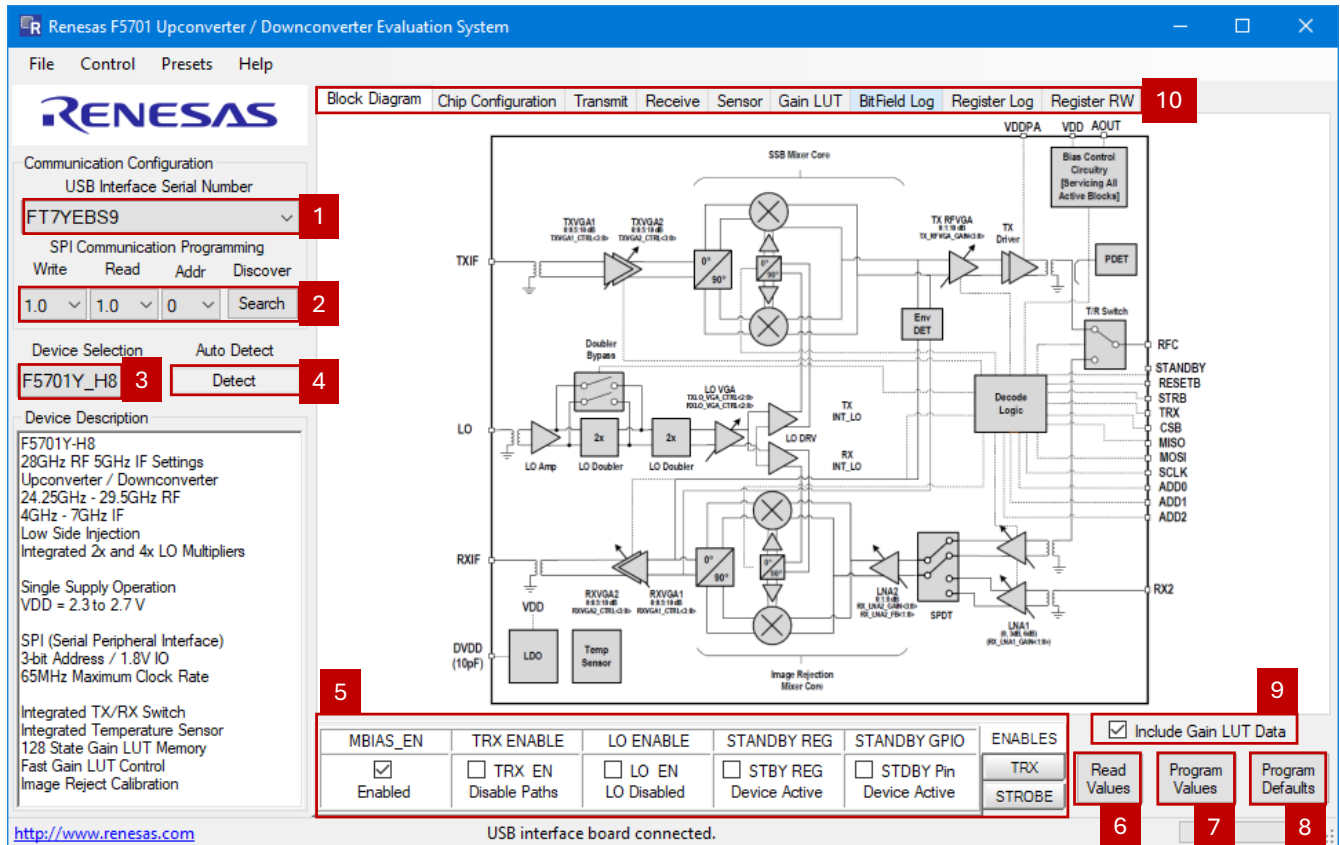
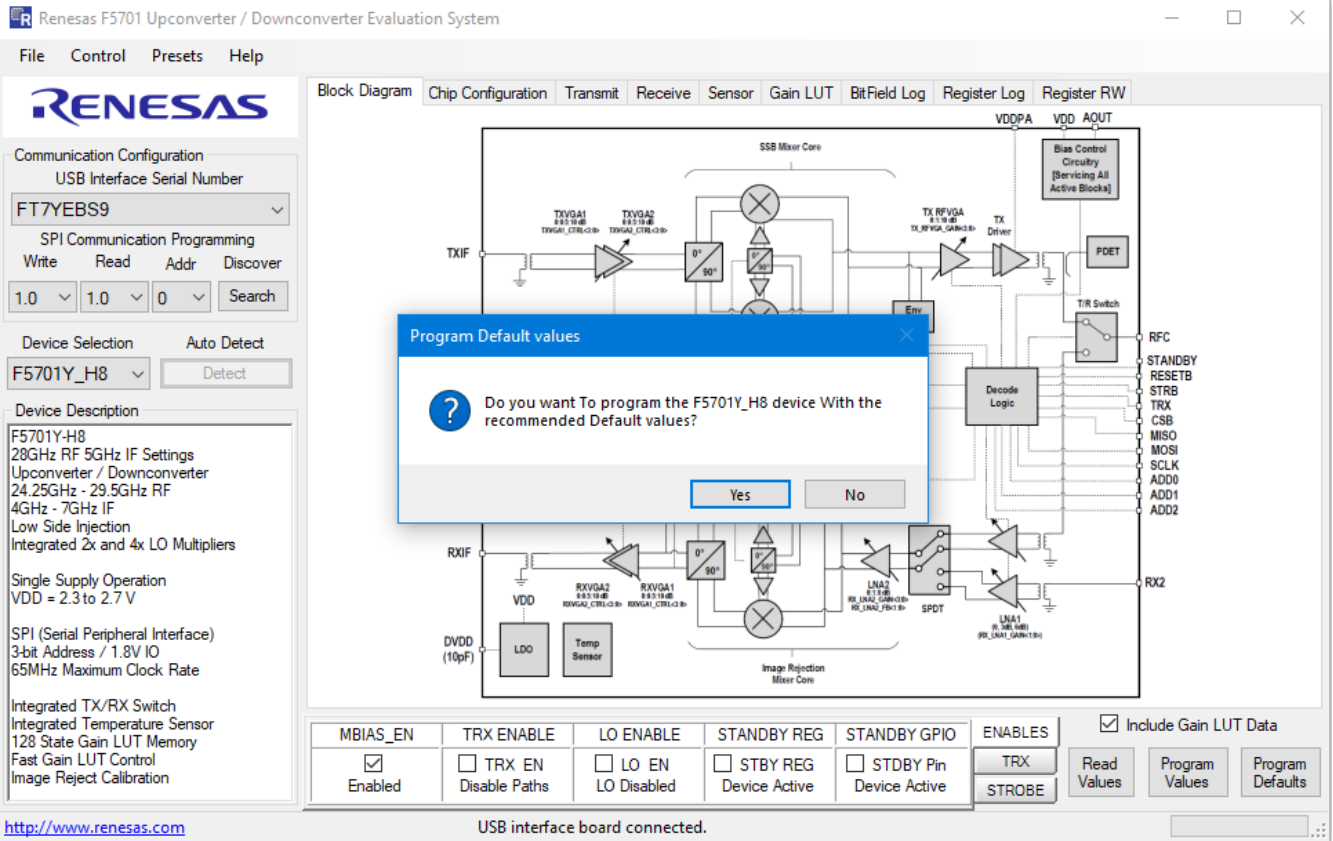
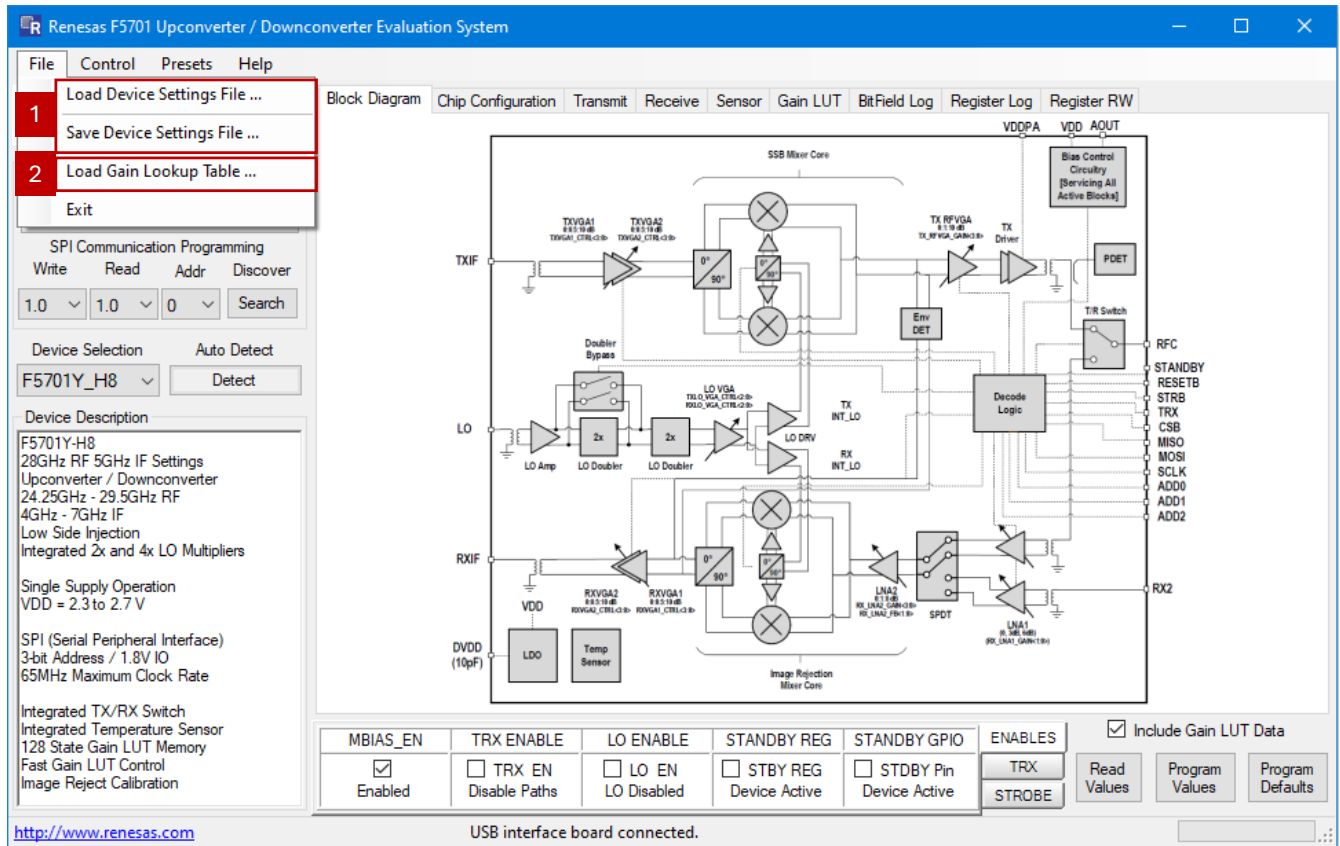
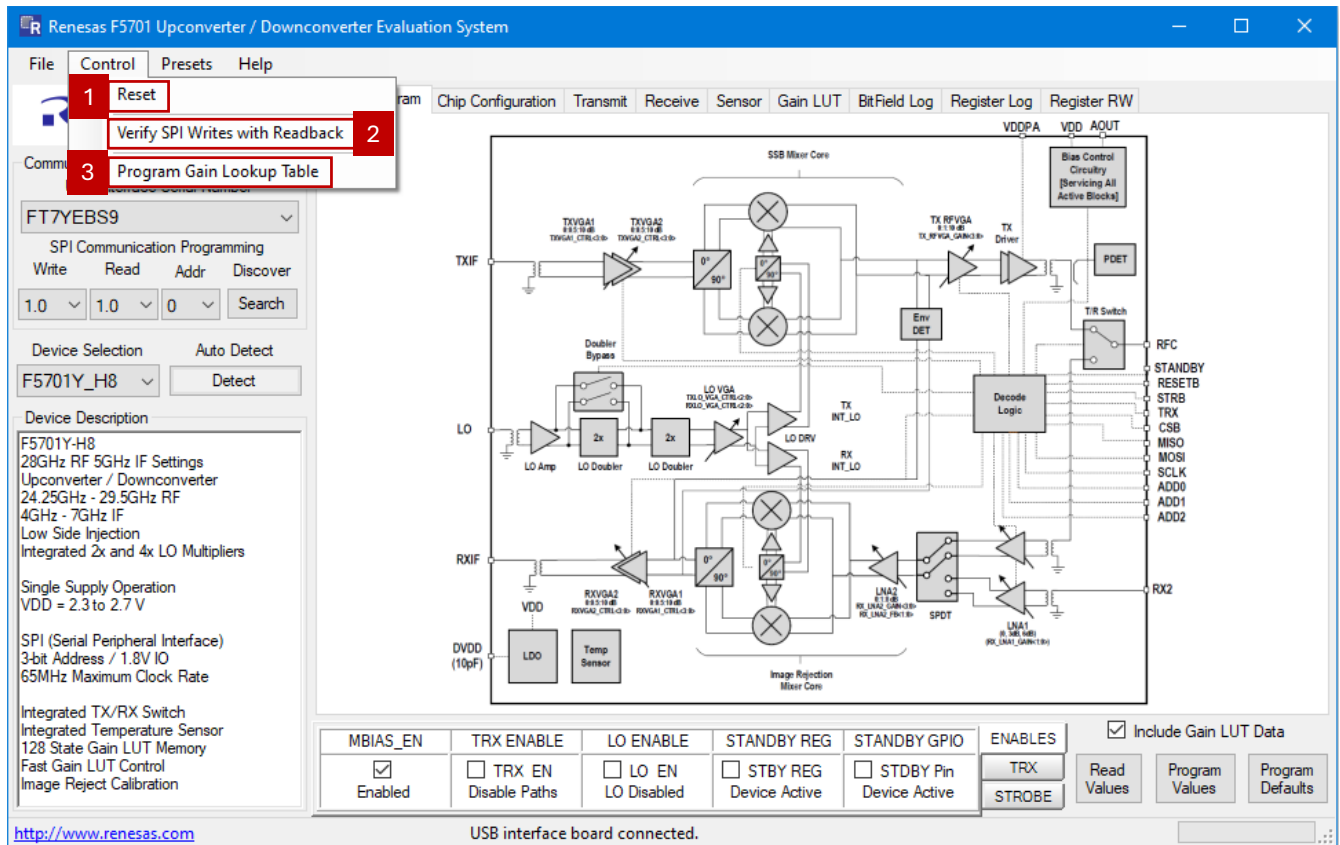

Figure 5. Application Control Panel at Start-up
Figure 6. Pop-up Window to Program Default Values
Figure 8. File Menu
Figure 9. Control Menu
1. Open the application through the Windows Start menu or click on the application icon if saved on the desktop. The application appears as shown in Figure 5. The USB Interface Serial Number (Figure 5, item 1) should be auto-detected if the FT2232HL digital interface board is connected and recognized.
2. Select write speed, read speed, and chip address (Figure 5, item 2), then select **Detect** (Figure 5, item 4) to start the communication with the device. The **Device Selection** drop-down menu (Figure 5, item 3) is automatically selected with the correct device variant (ZL or Y). A subsequent pop-up window will ask if the user would like to program the device with the recommended default values (Figure 6). Click *Yes* to program the default values or click *No* to reset the device.
3. For each device variant, there are five recommended settings to choose from: H8 (5GHz IF / 28GHz RF), H6 (5GHz IF / 26GHz RF), H6H (5GHz IF / 26GHz RF, high linearity), L8 (3GHz IF / 28GHz RF), and L6 (3GHz IF / 26GHz RF). By default, H8 is initially selected and programmed. To program the device to other settings, use the **Device Selection** drop-down menu (Figure 5, item 3) and follow the pop-up window.
4. Users can also program the device with the recommended default values at any time afterward by clicking the *Program Defaults* button (Figure 5, item 8). After the programming, the GUI settings will be in sync with the hardware settings and the device can be controlled in real time.
- Users can quickly enable/disable the master bias, enable/disable signal paths, set the device standby mode, switch between transmit and receive modes, and control the strobe pin by using the high-level chip control checkboxes at the bottom of the main panel (Figure 5, item 5).
- To read all bitfield and register values at any given time, click the *Read Values* button (Figure 5, item 6) and the results will be displayed on both **BitField Log** and **Register Log** panels. To view the results, click on either **BitField Log** or **Register Log** panel tabs (Figure 5, item 10).
7. The File menu shown in Figure 8 provides options to load or save device settings (Figure 8, item 1). Device bitfield settings can be saved to an XML file and loaded back to the software at any given time. To use a Gain Lookup Table (LUT), **Load Gain Lookup Table** (Figure 8, item 2) to load a gain LUT file, then select **Program Gain Lookup Table** (Figure 9, item 3) in the Control menu to program it to the device.
Note: To use gain LUT, the **Include Gain LUT Data** checkbox (Figure 5, item 9) must be checked. The Control menu also allows users to reset the device (Figure 9, item 1). The software will read back the written register after every SPI write command if item 2 in Figure 9 is selected.
- The main configuration control panel can be seen by clicking on the **Chip Configuration** panel tab (Figure 5, item 10). Users can select the corresponding subpanel tab to read chip information (Figure 11), set general device configuration (Figure 12), set/enable master bias (Figure 13), and test the SRAM (Figure 14).